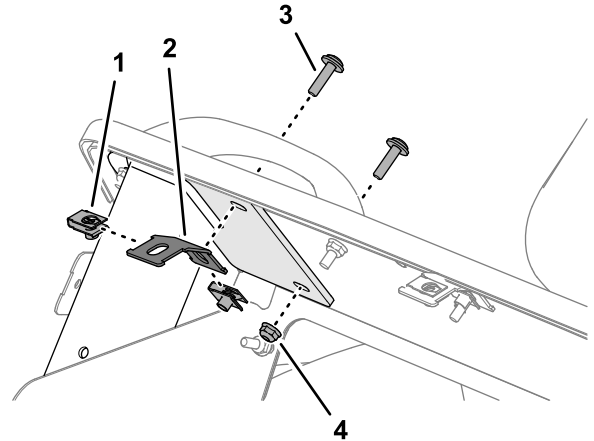

Figure 133
1. Remove the 2 Phillips panhead screws (1/4 x 1 inch) and locknut (1/4 inch) that secure the hood bracket to the dash (Figure 133).
2. Remove the 2 clip nuts (1/4 inch) from the hood bracket (Figure 133).